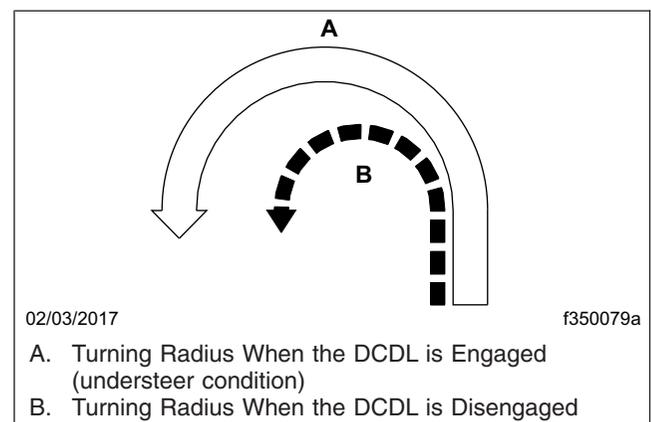

Fig. 19.3, Turning Radii
3. Drive cautiously and do not exceed 25 mph (40 km/h). When the differential is fully locked, the turning radius will increase because the vehicle understeers. See Fig. 19.3.